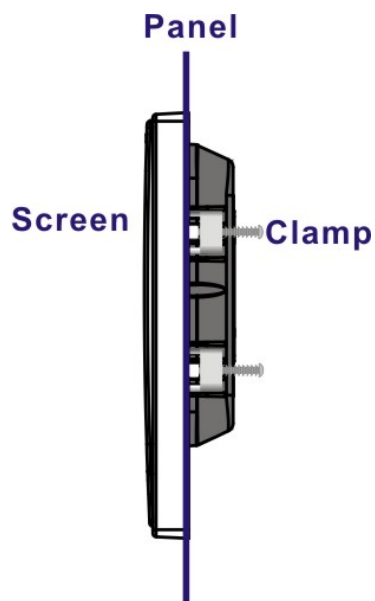

Figure 4-17: Tighten the Panel Mounting Clamp Screws
- Step 5:** Tighten the screws that pass through the panel mounting clamps until the plastic caps at the front of all the screws are firmly secured to the panel (**Figure 4-17**).